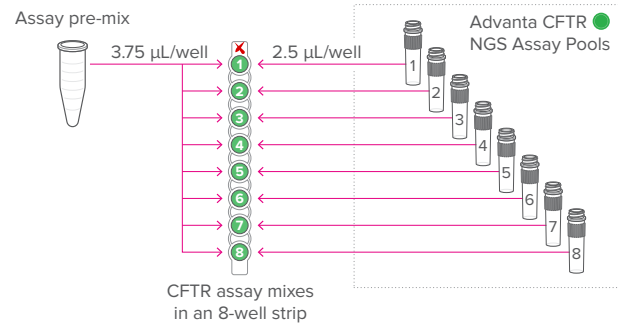

Figure 1. Preparation of CFTR assay mixes
- 2 In a DNA-free hood, prepare a CFTR assay mix for each of the eight tubes of Advanta CFTR NGS Assay Pools in a new 8-well strip by adding each component as shown in Table 2 and Figure 1. Pipet gently up and down to mix, being careful to avoid creating bubbles.